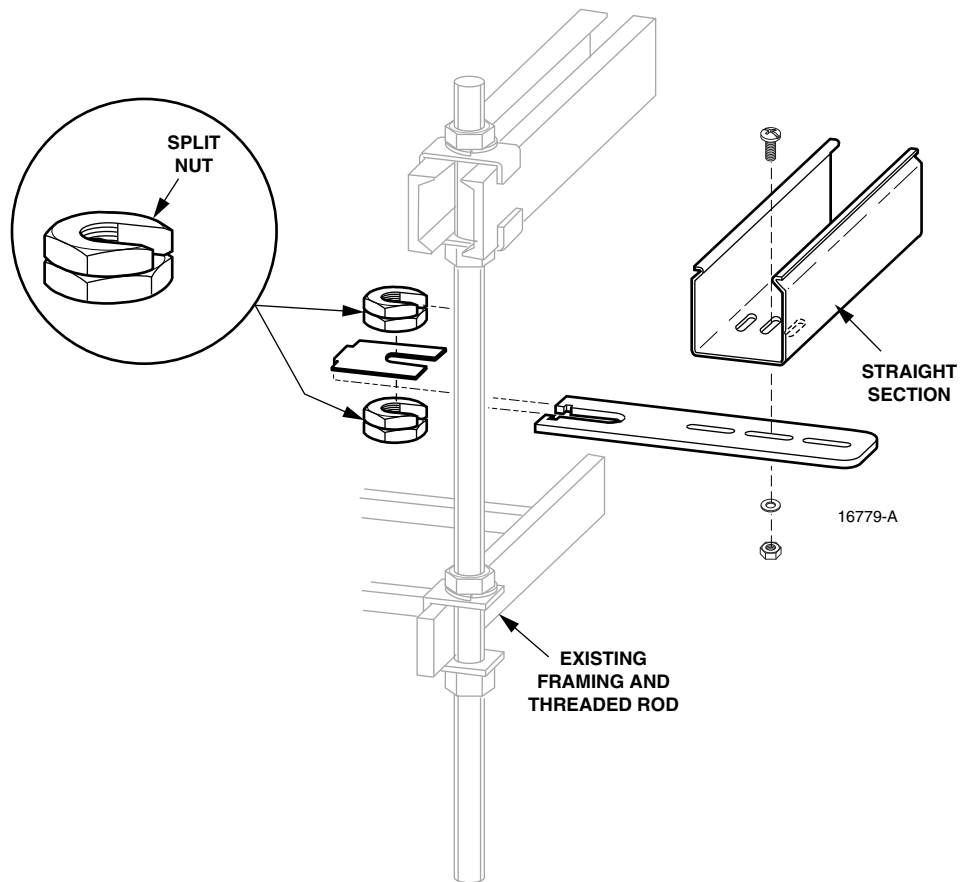

Figure 2-15. Installing 2-Inch Existing Threaded Rod Kit
Install an existing threaded rod kit in the following order, referring to Figure 2-15.
2. Stack bracket clip and bracket on the bottom split nut as shown in Figure 2-15.